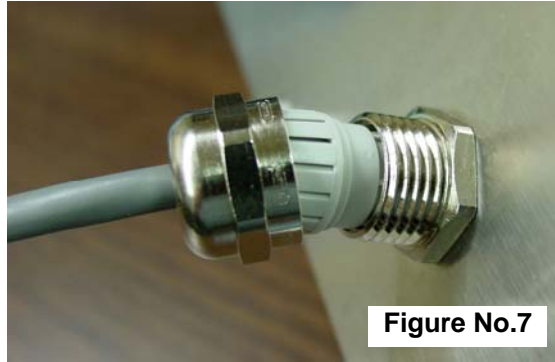

Figure No.7
- The shield wire is secured when tightening the gland connector nut. See Figure No. 7.